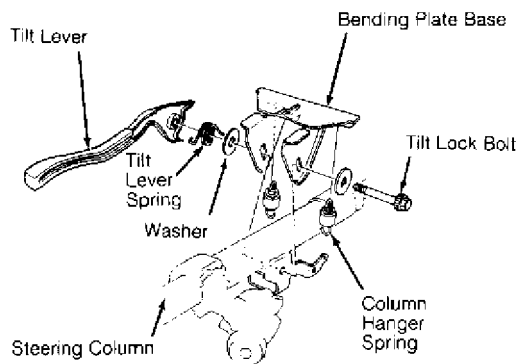

Fig. 5: Exploded View Of Tilt Lock Assembly (Typical)
2) Remove steering joint cover. Center tilt lock assembly. See Fig. 5. Remove steering joint bolts. Slide steering joint upward on column. Align steering joint upper bolt hole with groove around column. Loosely install upper bolt. See Fig. 6.